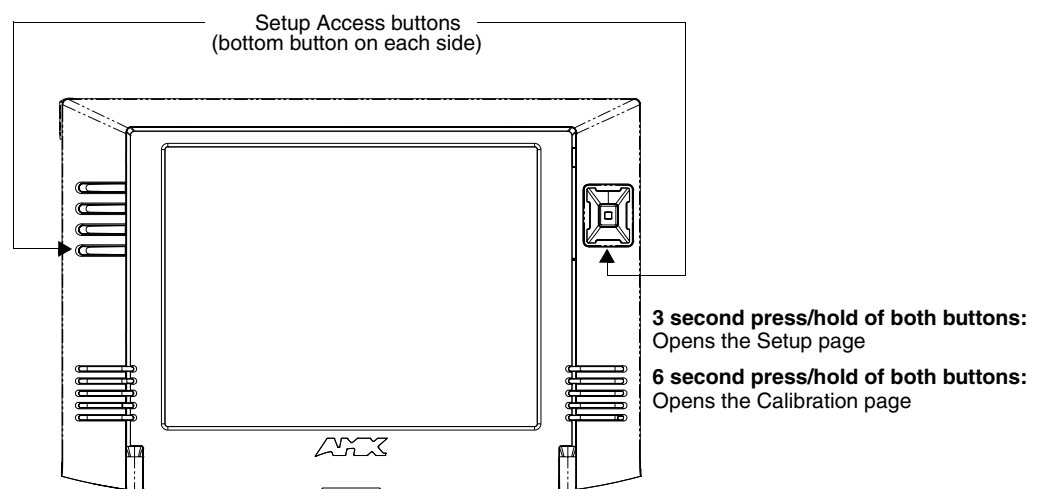
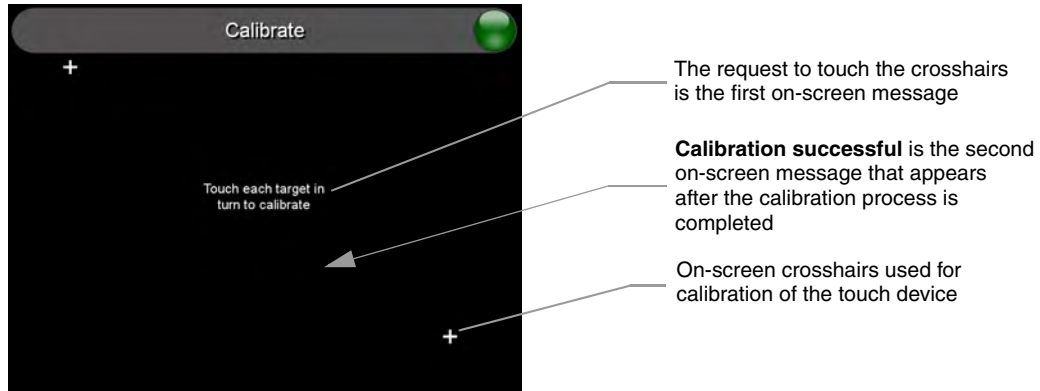

FIG. 69 Location of Setup Access buttons
FIG. 70 Touch Panel Calibration Screens
1. Press and hold the two lower external pushbuttons on both sides of the MVP (FIG. 69) for **6 seconds** to pass-over the Setup page and access the Calibration setup page (FIG. 70).
2. Using the included stylus, press the crosshairs (on the Calibration page) to set the calibration points on the LCD (FIG. 70).